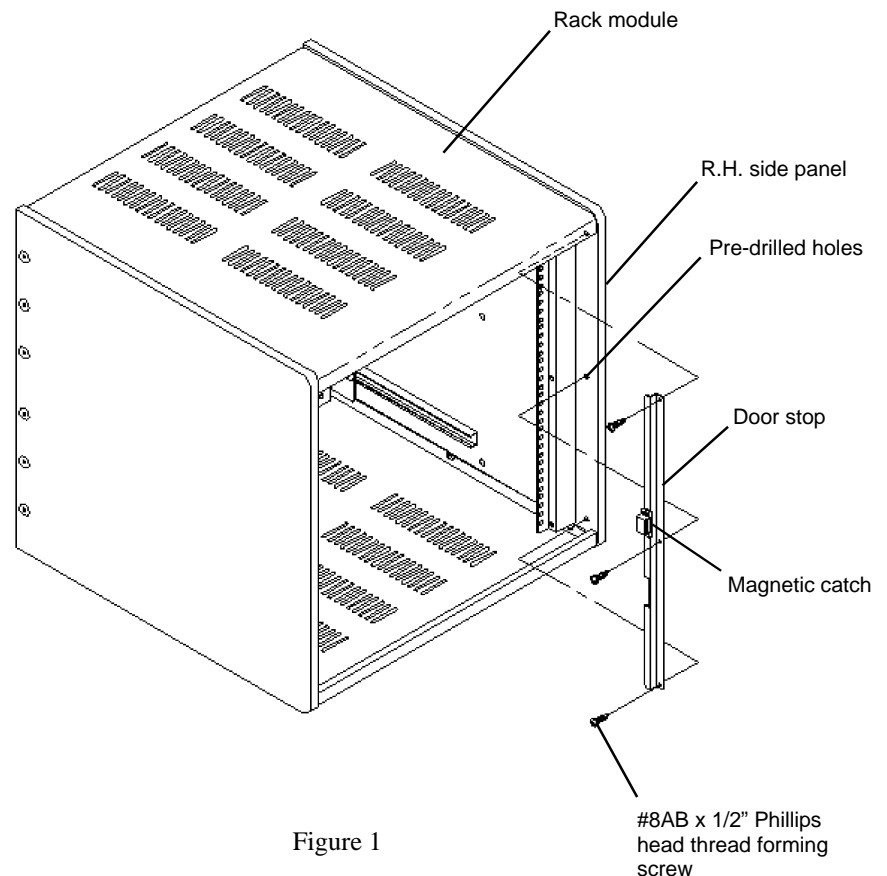

Figure 1
1. Install the **Door Stop** onto the Right Hand Side Panel using the #8AB x .50 Phillips head screws. The Side Panel is pre-drilled to accept the screws. See **Figure 1**.